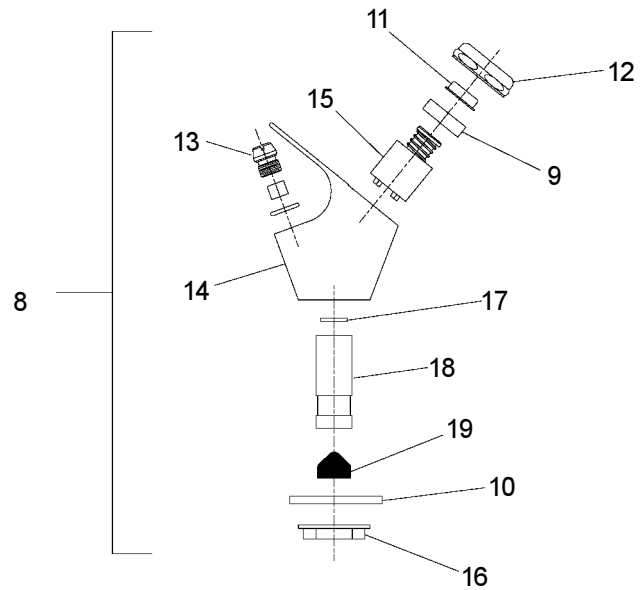

FIG. 2
**STREAM HEIGHT ADJUSTMENT:** Stream height is factory set at 45-50 PSI. If supply pressure varies greatly from this, remove items 11, and 12 (See figure 2) from bubbler assembly and adjust the screw on the regulator (Item 15). Clockwise adjustment will raise stream height and counterclockwise will lower the stream height. A stream height of 1-1/2" (38mm) is recommended.